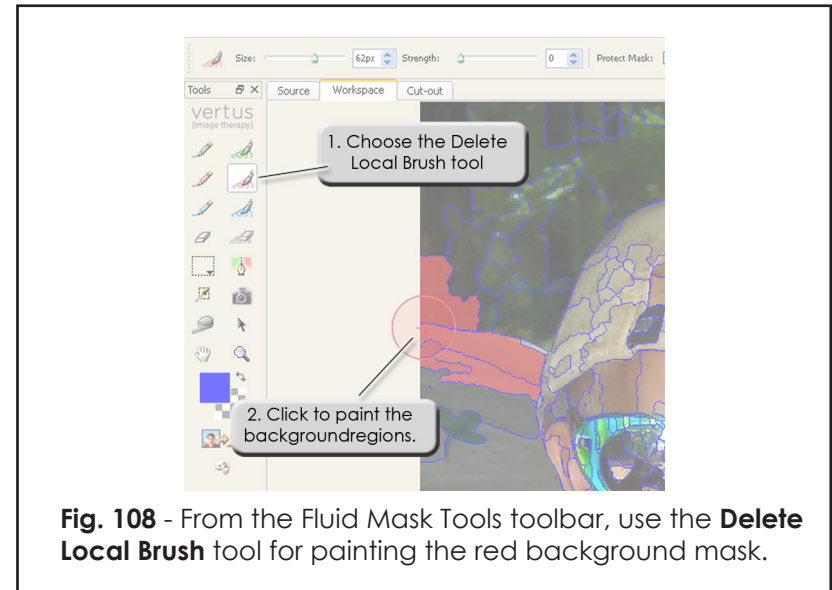

Fig. 108 - From the Fluid Mask Tools toolbar, use the **Delete Local Brush** tool for painting the red background mask.
5. From the Tools toolbar, choose the **Delete Local Brush** tool (Fig. 108).